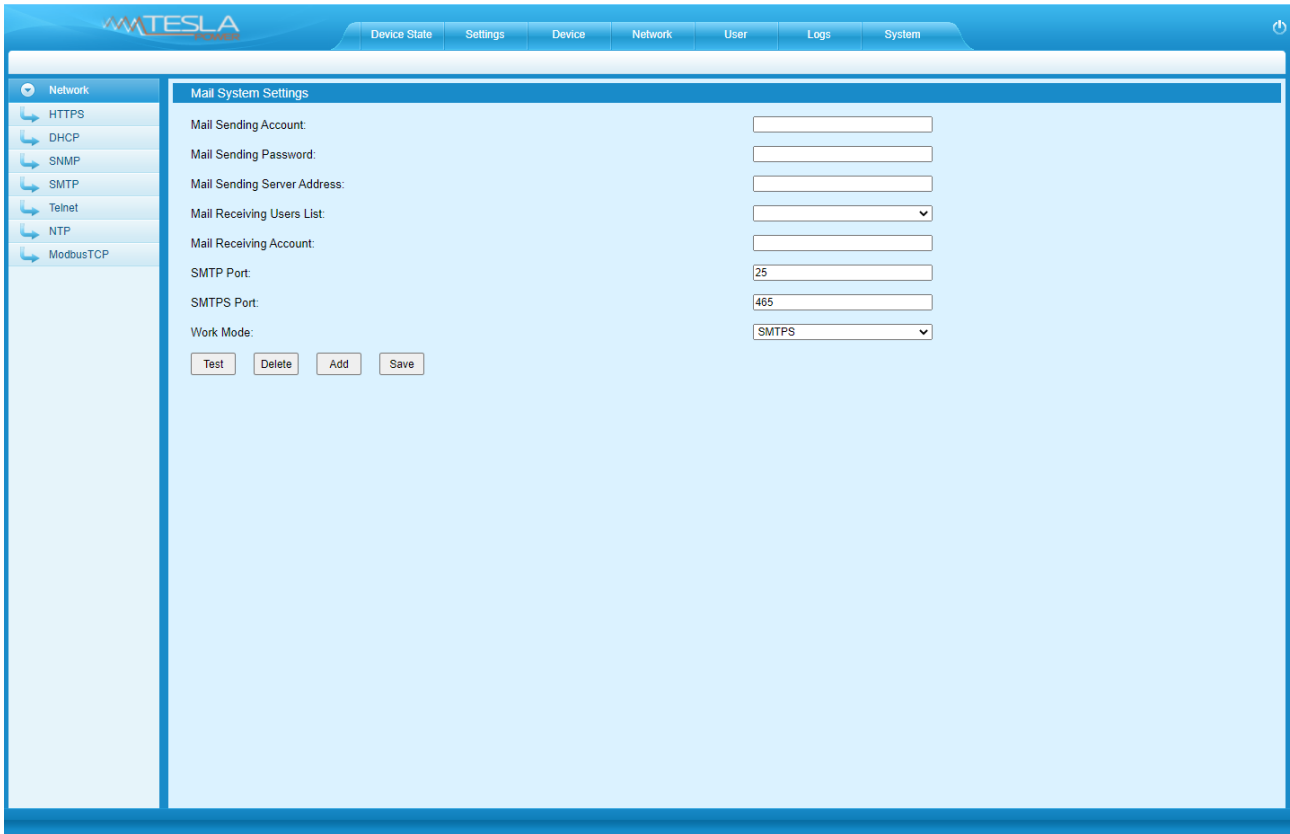

Figure 1-14
5) SMTP settings: Click SMTP from the network navigation tab to enter the SMTP setting as figure 1-14